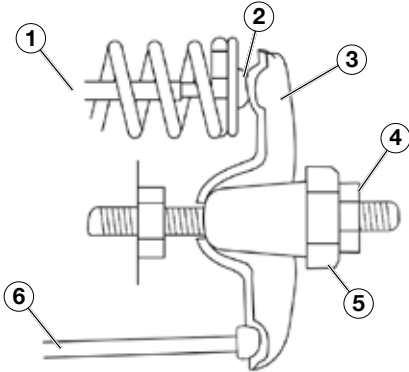

Figure 20
5. Insert a feeler gauge between the rocker arm and the valve stem and check for clearance (see Figure 20). See Table 2 for valve lash specifications